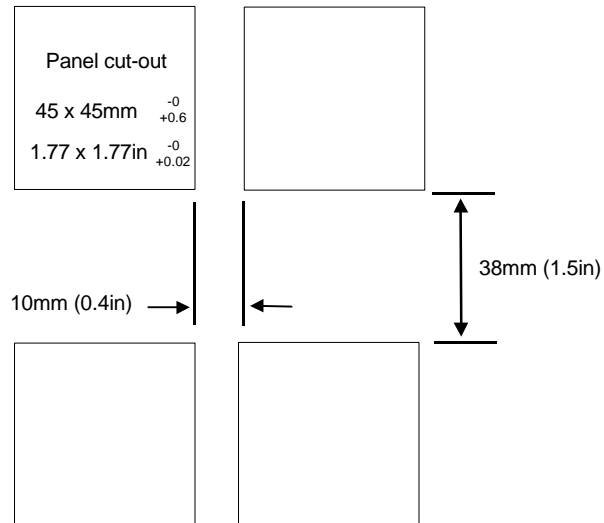

Figure 1-3 Panel cut-outs and minimum spacing
The electronic assembly of the controller plugs into a rigid plastic sleeve, which in turn fits into the standard DIN size panel cut-out shown in Figure 1-3.
1. Prepare the control panel cut-out to the size shown in Figure 1-3.